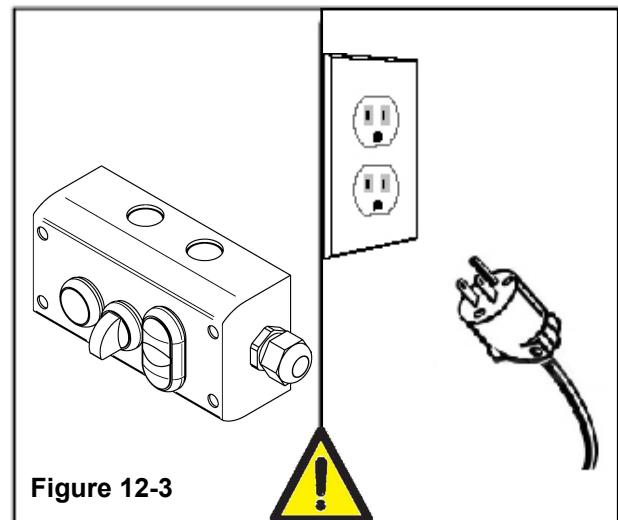

Figure 12-3
Turn the main switch ON (I) and depress the blue reset button after the EMERGENCY BUTTON is released (Figure 12-3).
Before carrying out any cleaning or maintenance operation, stop the machine by turning OFF (O) switch on the main and disconnect electric power (Figure 12-3).